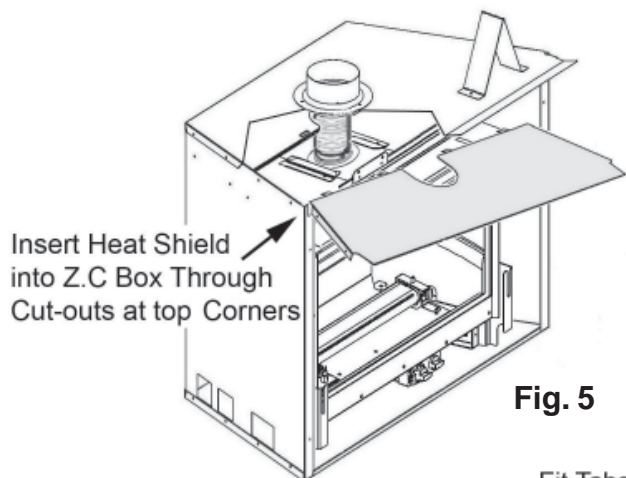

Fig. 5
1. Place heat shield into Z.C. box through the notched cut-outs on each side at the top of box. **See Fig. 5.**